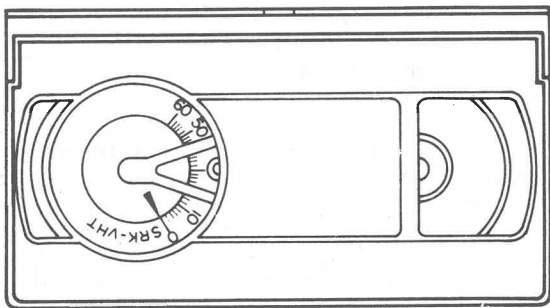

Fig. 4 Back Tension Gauge
**Note:** Two (2) Back Tension Cassette Gauges are available. When using the gauge illustrated in Fig. 4 use the values in parenthesis ( ).